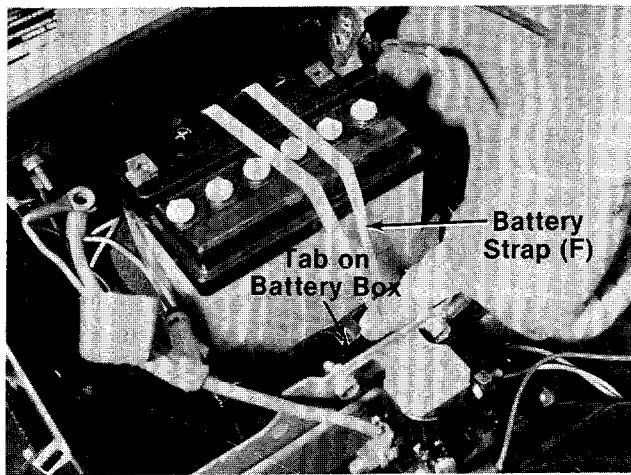

FIGURE 10.
13. Secure the battery to the battery box by stretching the battery strap (F) provided across the battery. Loop each end around the tab on the sides of the battery box. See figure 10.